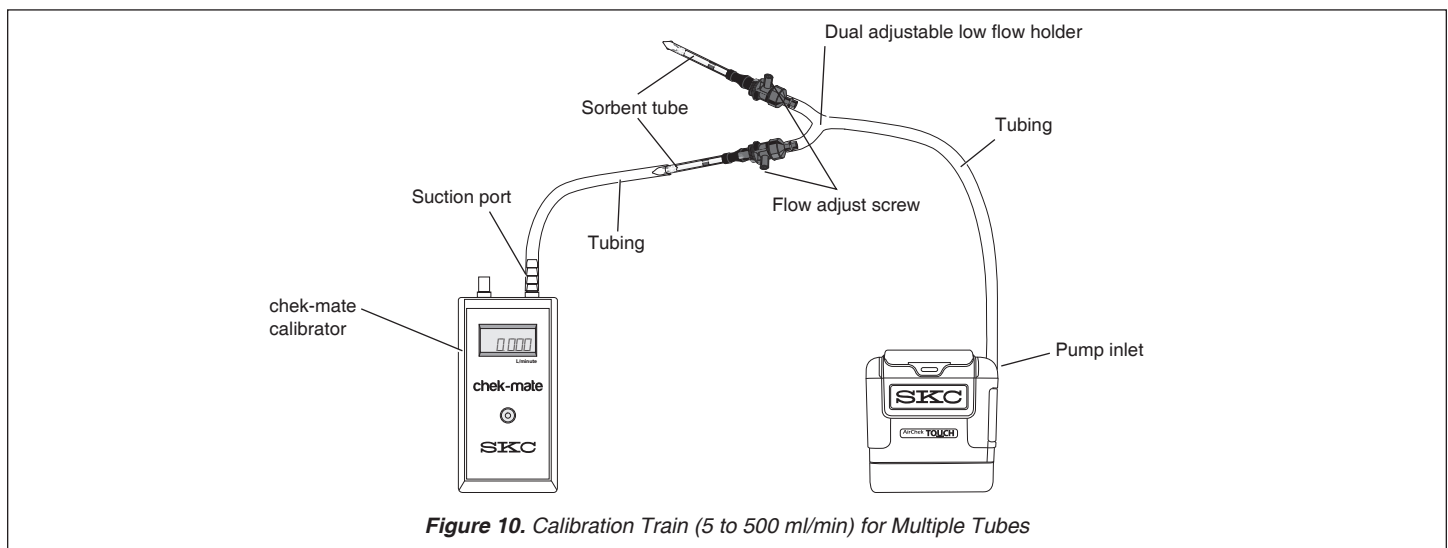

Figure 10. Calibration Train (5 to 500 ml/min) for Multiple Tubes
1. On the Adjustable Low Flow Tube Holder, insert an opened representative tube (arrow on tube pointing toward the pump) into the rubber sleeve of a port. Repeat for the desired number of tube samples. See Figure 10.